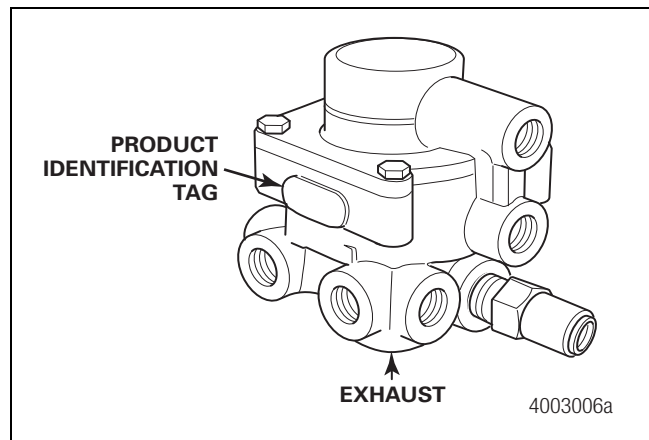

Figure 2
- Use 8 mm mounting hardware to attach the valve to the mounting surface. Tighten to 15 ± 2 lb-ft (20 ± 3 N•m). Figure 2.